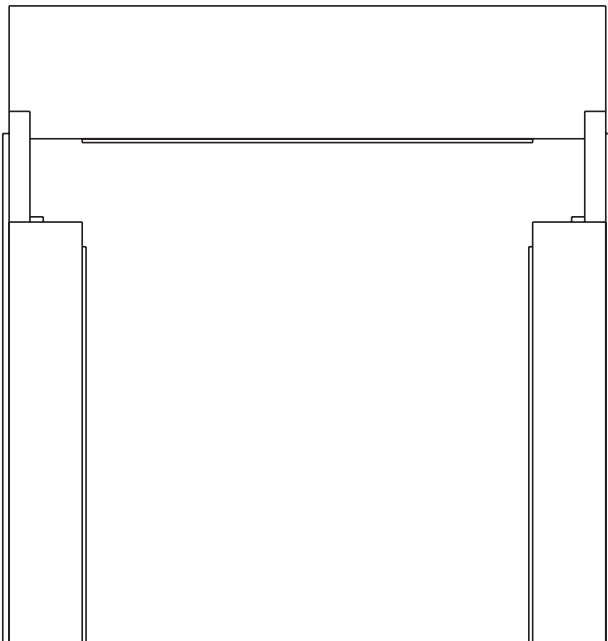

Figure 1
- Insert mantel side into breastboard. Ensure corners are tight and flush. (See Figure 1).